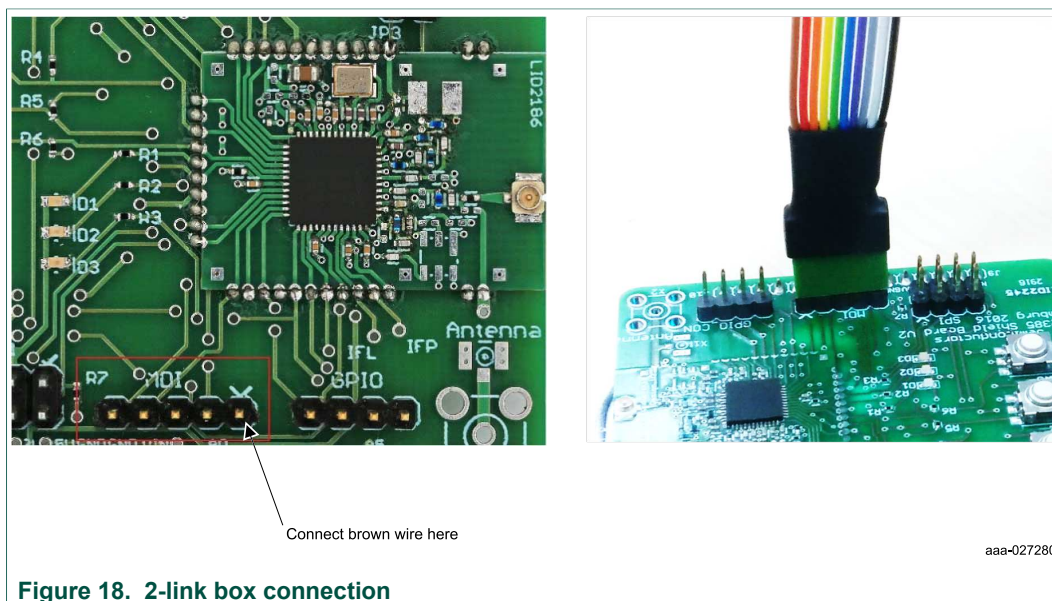

Figure 18. 2-link box connection
1. Connect the 2-link box as shown in Figure 18. Find the MDI interface on the board and connect the ground wire (brown) of the 2-link box to the marked with a white arrow.